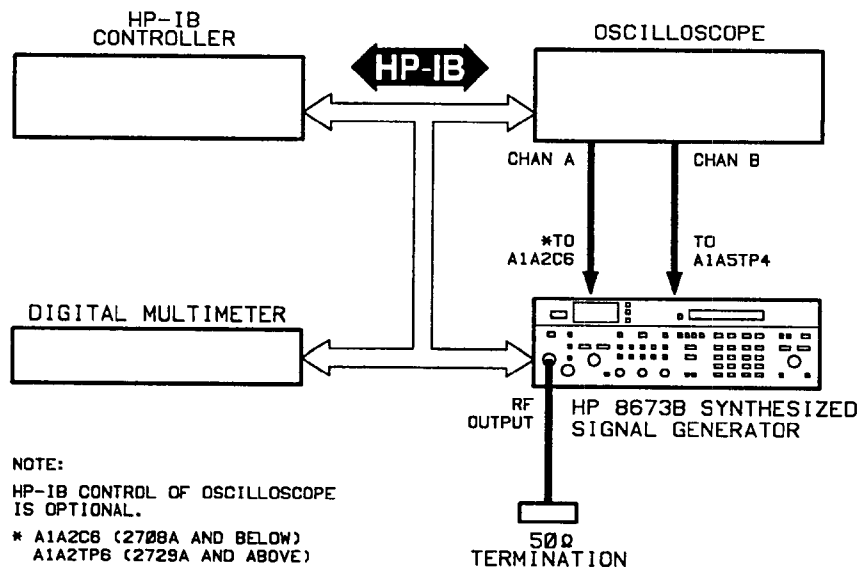

Figure 5-24. YTM Tune Adjustment Test Setup
1. Connect equipment as shown in figure 5-24.